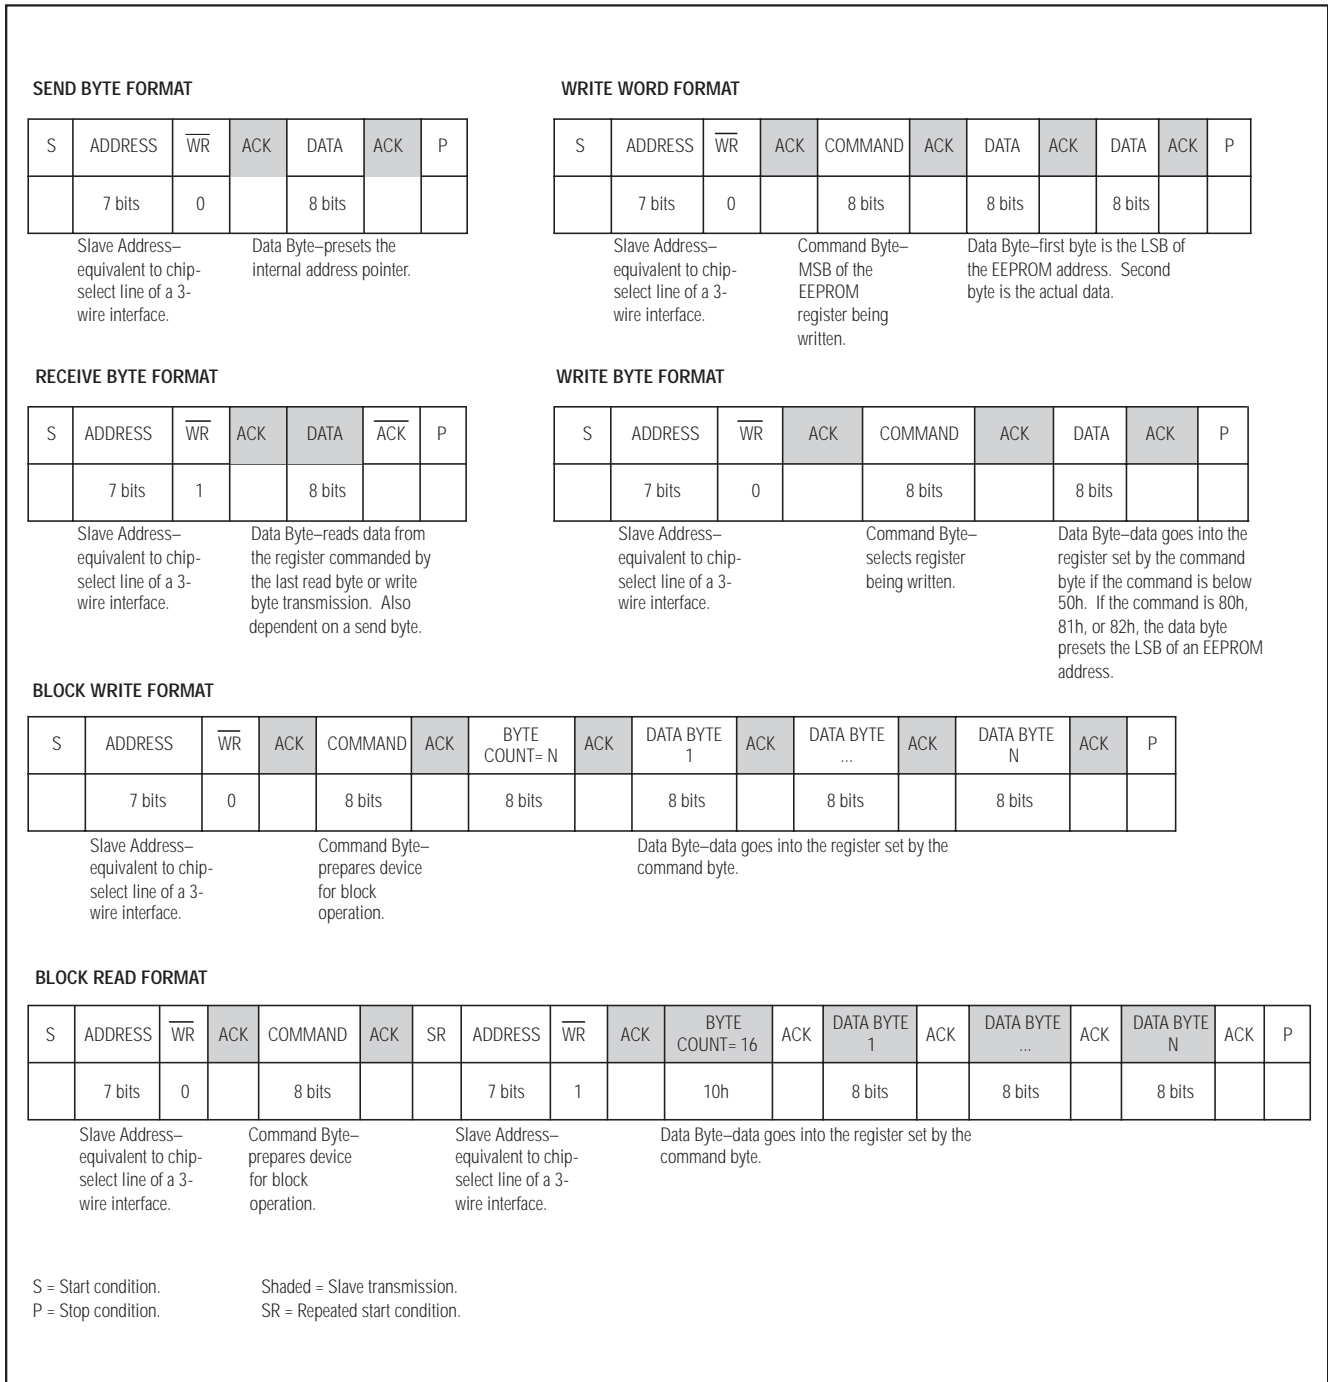

Figure 7. SMBus/I2C Protocols
condition frees the bus for another transmission. The bus remains active if a REPEATED START condition is generated, such as in the block read protocol (see Figure 7).
A REPEATED START (SR) condition may indicate a change of data direction on the bus. Such a change occurs when a command word is required to initiate a read operation (see Figure 7). SR may also be used when the bus master is writing to several I2C devices and does not want to relinquish control of the bus. The MAX6870/MAX6871 serial interface supports continuous write operations with or without an SR condition separating them. Continuous read operations require SR conditions because of the change in direction of data flow.
The send byte protocol allows the master device to send one byte of data to the slave device (see Figure 7). The send byte presets a register pointer address for a subsequent read or write. The slave sends a NACK instead of an ACK if the master tries to send an address that is not allowed. If the master sends 80h, 81h, or 82h, the data is ACK. This could be start of the write byte/word protocol, and the slave expects at least one further data byte. If the master sends a stop condition, the internal address pointer does not change. If the master sends 84h, this signifies that the block read protocol is expected, and a repeated start condition should follow. The device reboots if the master sends 88h. The send byte procedure follows:
The write byte/word protocol allows the master device to write a single byte in the register bank, preset an EEPROM (configuration or user) address for a subsequent read, or to write a single byte to the configuration or user EEPROM (see Figure 7). The write byte/word procedure follows:
The block write protocol allows the master device to write a block of data (1 to 16 bytes) to the EEPROM or to the register bank (see Figure 7). The destination address must already be set by the send byte or write byte protocol and the command code must be 83h. If the number of bytes to be written causes the address pointer to exceed 45h for the configuration register or configuration EEPROM, the address pointer stays at 45h, overwriting this memory address with the remaining bytes of data. The last data byte sent is stored at register address 45h. If the number of bytes to be written exceeds the address pointer FFh for the user EEPROM, the address pointer loops back to 00h, and continues writing bytes until all data is written. The block write procedure follows:
The receive byte protocol allows the master device to read the register content of the MAX6870/MAX6871 (see Figure 7). The EEPROM or register address must be preset with a send byte or write word protocol first. Once the read is complete, the internal pointer increases by one. Repeating the receive byte protocol reads
The block read protocol allows the master device to read a block of 16 bytes from the EEPROM or register bank (see Figure 7). Read fewer than 16 bytes of data by issuing an early STOP condition from the master, or by generating a NACK with the master. The send byte or write byte protocol predetermines the destination address with a command code of 84h. The block read procedure follows: